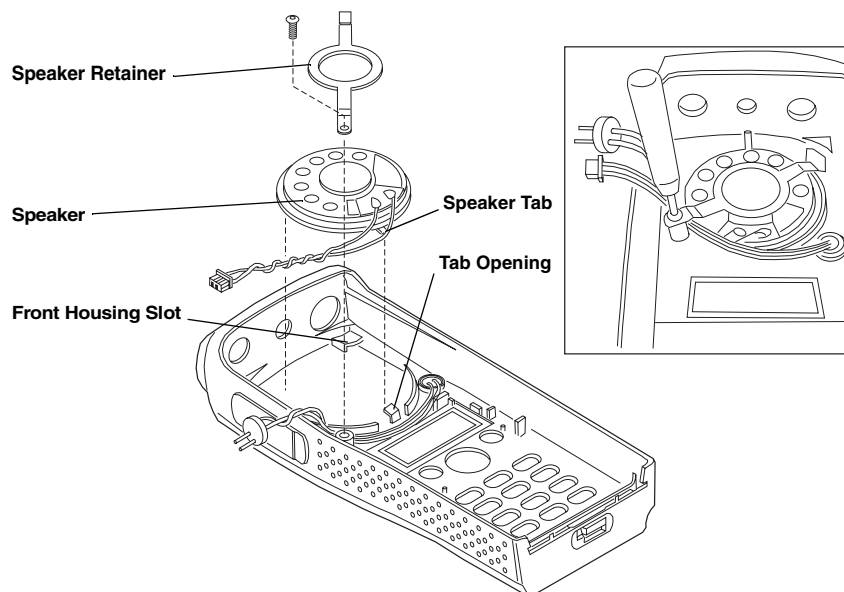

Figure 6-13. Speaker Re-assembly
4. Locate the speaker tab and align it with the tab opening in the front housing (Figure 6-13).
6. Insert one end of the speaker retainer into the slot in the front housing (See Figure 6-13).